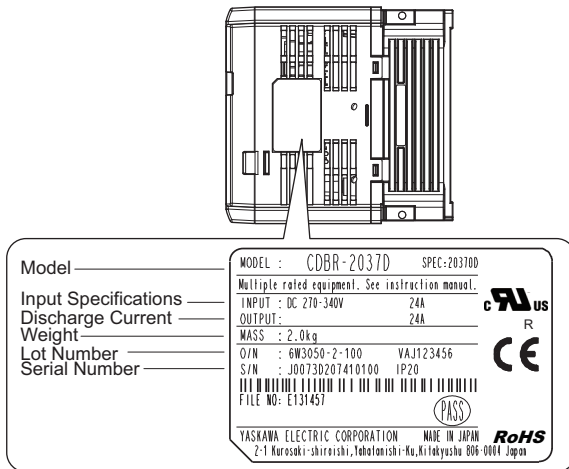

Figure 5 Nameplate Example (CDBR Braking Unit)
- Verify receipt of the correct model by checking the model number printed on the option nameplate. (Refer to Figure 5 on page 14 for more information)